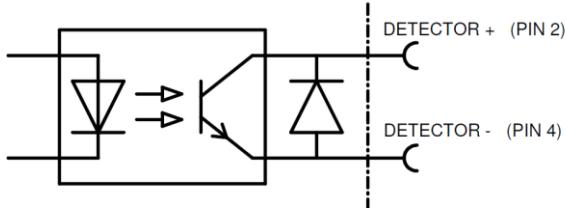

Figure 4, Perfomaster connections
- Connect the cable to the power supply as shown in figure 4.